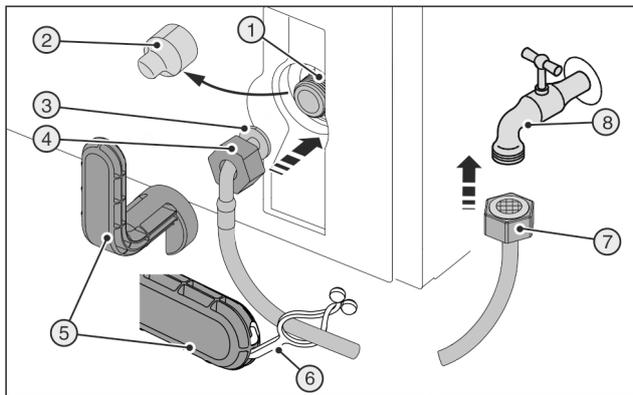
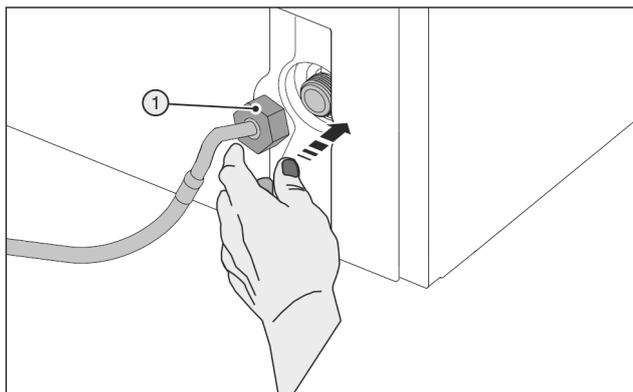

Fig. 45
Fig. 46
Broken auxiliary tool Fig. 45 (5).
- ▶ Only use an auxiliary tool Fig. 45 (5) at room temperature.
- ▶ Remove the cover Fig. 45 (2).
- ▶ Easy to fit: Place the straight end of the hose Fig. 45 (7) to the left on the floor.
- ▶ Slide the nut Fig. 45 (4) over the angled end of the hose Fig. 45 (3) up to the end and secure.
- ▶ Position the nut Fig. 46 (1) carefully and screw it directly onto the thread with two fingers until it is seated securely.
- ▶ Tighten the nut Fig. 46 (1) clockwise with the auxiliary tool Fig. 45 (5) until maximum torque is reached and the auxiliary tool Fig. 45 (5) overtightens.
- ▶ Screw the nut Fig. 45 (7) onto the stopcock Fig. 45 (8).
- ▶ Tighten the nut Fig. 45 (7) clockwise with the auxiliary tool Fig. 45 (5) until maximum torque is reached and the auxiliary tool Fig. 45 (5) overtightens.
- ▶ Turn the water supply stopcock Fig. 45 (8) on and check the whole water system for leaks.
- ▶ Hook the clip Fig. 45 (6) into the auxiliary tool Fig. 45 (5) and fix it to the stainless steel pipe to store it.